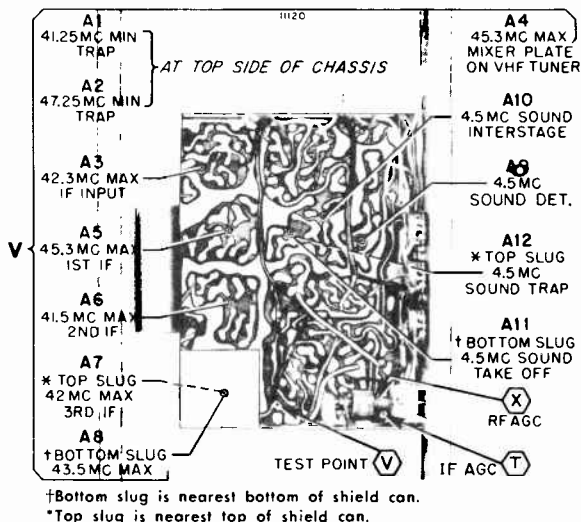

Figure 10. Bottom View of Chassis Showing Test Point Locations and IF Alignment Data. VHF Tuner at Top of Illustration.
- Connect negative of 3.0 volt bias supply through 10K resistor to test point "T" (IF AGC), see figures 10 and 11, positive to chassis.
2. Select the strongest TV station received. AGC control must be in proper adjustment. Adjust other controls for normal operation. Turn Super Range Finder Control fully to the left (counterclockwise). See figures 10 and 11 for adjustment locations.